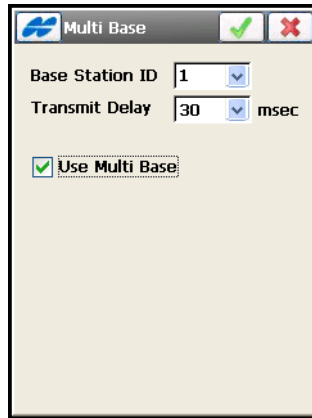

Figure 8-4. Multi Base
- *Multi Base* – available for RTK with CMR+ format of correction data; opens the **Multi Base** screen (Figure 8-4 on page 8-6) to set the multi base mode. This mode allows the base station to use a single frequency for transmitting data. Setting a transmission delay for each station prevents signals from colliding.
The **Multi Base** screen (Figure 8-4 on page 8-6) sets parameters for Base Stations.